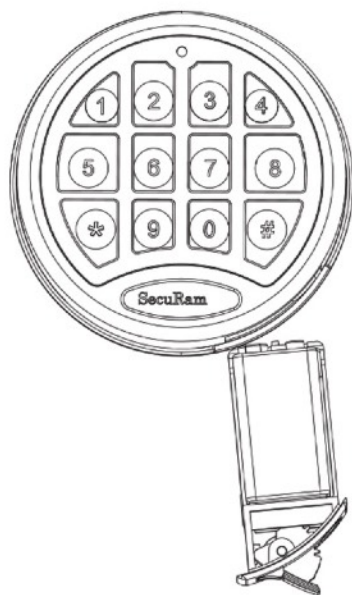

Fig. 6
- Install battery: Make sure to connect the battery correctly at the positive and negative poles. Slide the battery compartment into the bottom of Entrypad, as shown. Push it up until it is in line with or level with the cover. Pull up the latch of the battery compartment until it is tight and secure too. (Fig. 6&7)